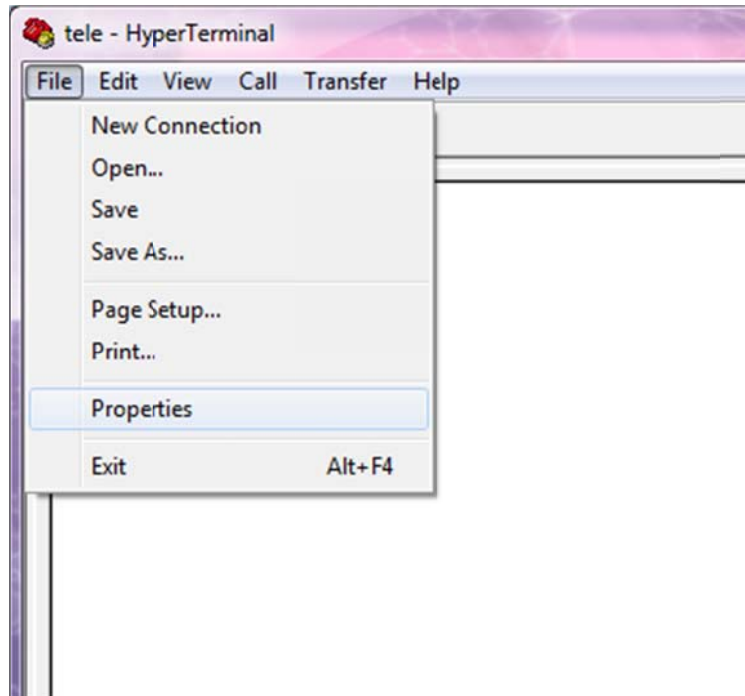

Figure 3-11, ASCII setup
- COM port Setup. Setting up ASCII: File – Properties – Settings, check the box “Append line feeds to incoming line ends” as shown in Figure 3-11 and 3-12.